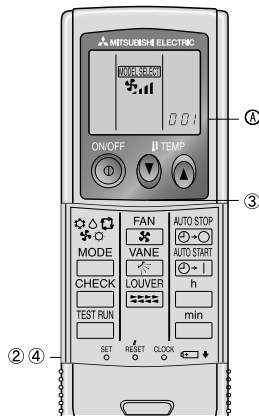

Fig. 6-3
1) Setting (Fig. 6-3)
- ① Insert batteries.
- ② Press the SET button with something sharp at the end.